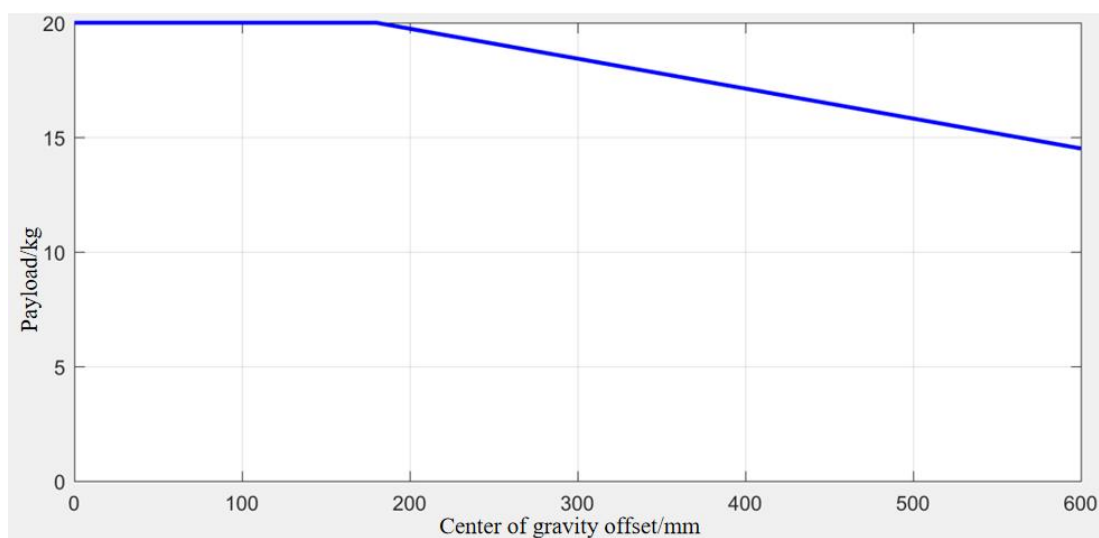

Figure B-9 G20 Payload and Center of Gravity Offset curves
- The relationship curve between the payload of the G20 collaborative robot and the payload center of gravity offset is shown in Figure B-9.